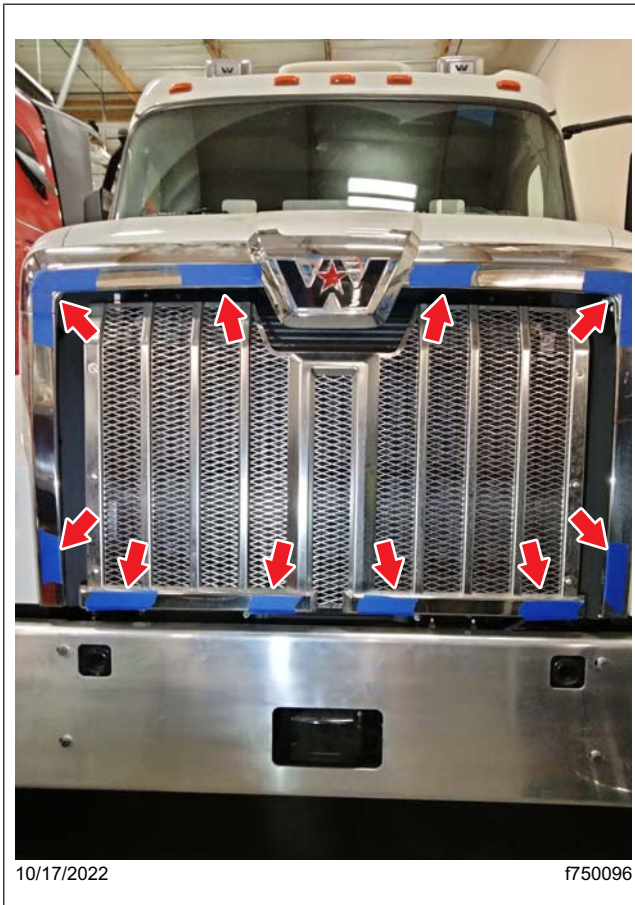

Fig. 1, Masking Tape Locations
5. Cover the bezel areas that need to be drilled, using masking tape. See **Fig. 1**.